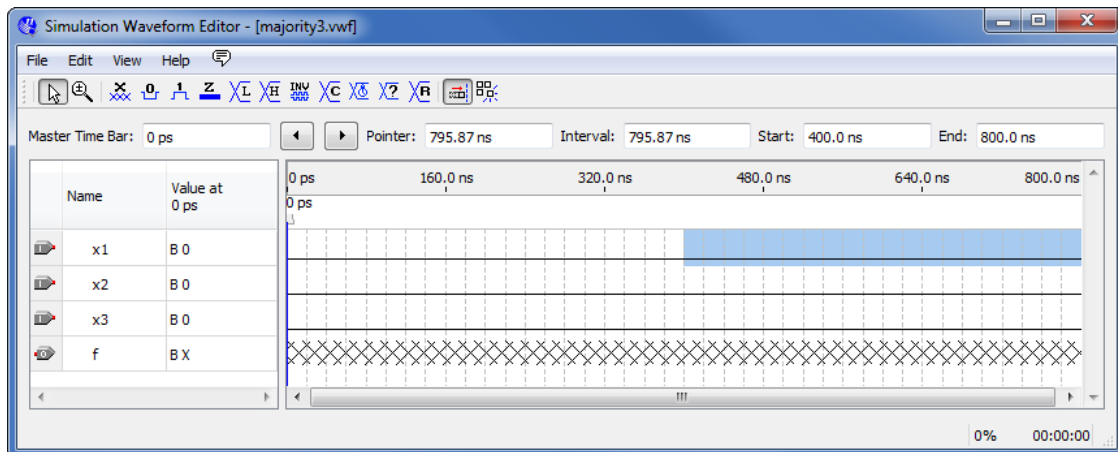
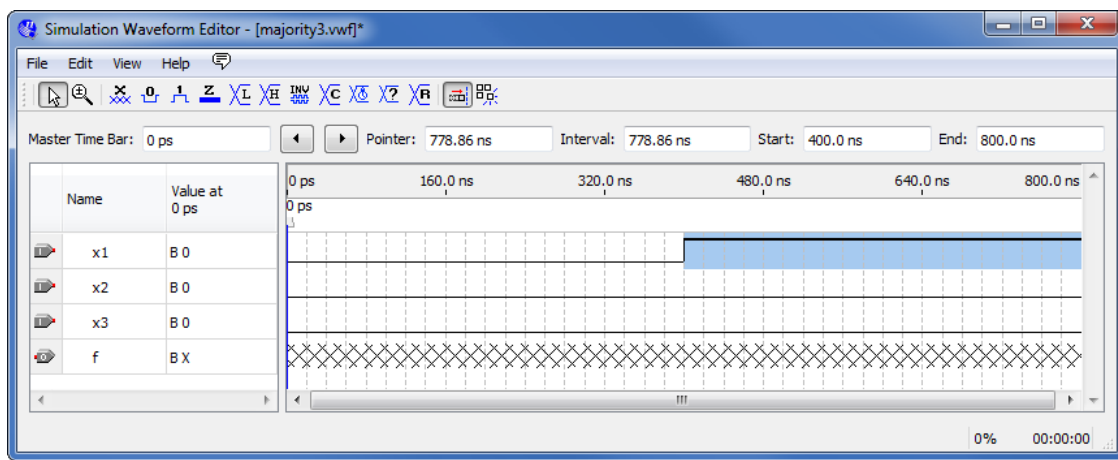

Figure 11. Selection of a time interval.
Figure 12. Drawing the waveform for x1
Input waveforms can be drawn in different ways. The most straightforward way is to indicate a specific time range and specify the value of a signal. To illustrate this approach, click the mouse on the *x1* waveform near the 400-ns point and then drag the mouse to the 800-ns point. The selected time interval will be highlighted in blue, as depicted in Figure 11. Change the value of the waveform to 1 by clicking on the Forcing High (1) icon , as illustrated in Figure 12.